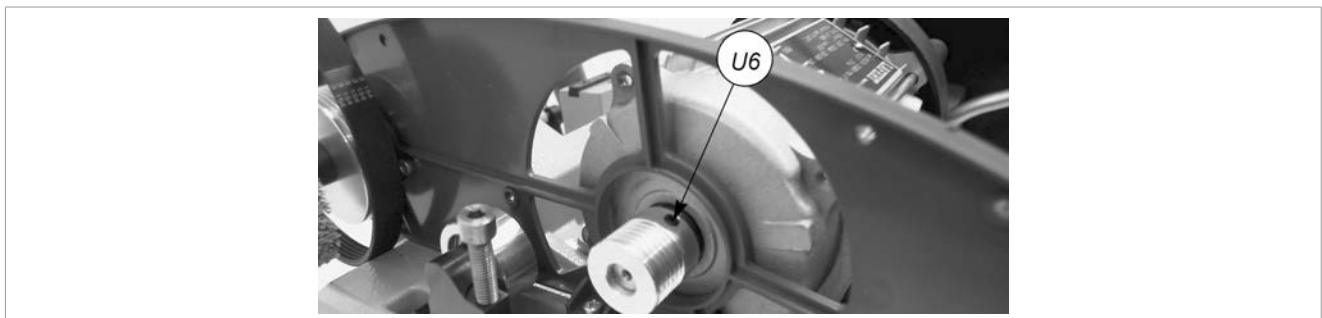

Fig. 43
- 11) Loosen the grub screw (U6) on the motor pulley (Fig. 43). Remove the pulley and fit to the new motor. Secure by tightening the grub screw (U6).